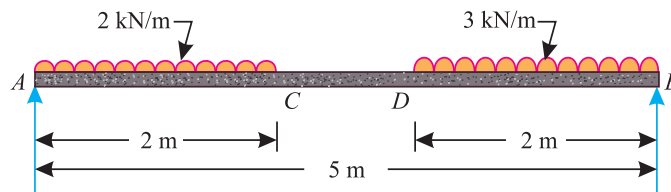

Fig. 16.15.
4. A beam of span 5 m is supported at A and B. It is subjected to a load system as shown in Fig. 16.15.